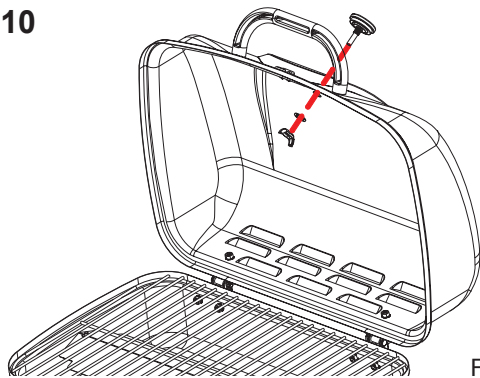

Fig. 10
*Procedure:* Place the Heat Indicator into the hole on the lid and fasten in place with the washer and wing nut as shown in Fig. 10.